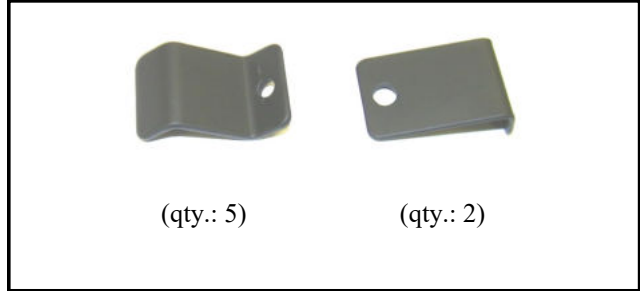

Fig. 18.2
18.2 Install the five (5) metal window clips along the bottom of the hard rear window using five #10-32 x 1/2" long pan head Phillips head bolts, five steel washers, and five locknuts. Locknuts and washers to be on the inside of the cab. See fig. 18.2.